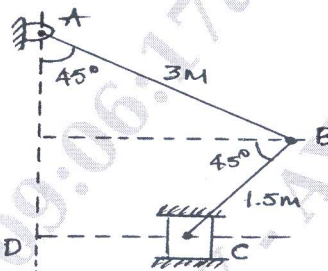

Fig.Q3(b)
- b. In the mechanism shown in Fig.Q3(b), the slider C is moving to the right with a velocity of 1 m/s and an acceleration of  $2.5 \text{ m/s}^2$ . The dimensions of various links are  $AB = 3 \text{ m}$  inclined at  $45^\circ$  with the vertical and  $BC = 1.5 \text{ m}$  inclined at  $45^\circ$  with the horizontal. Determine: i) The magnitude of vertical and horizontal component of acceleration of the point B and (ii) The angular acceleration of the links AB and BC.